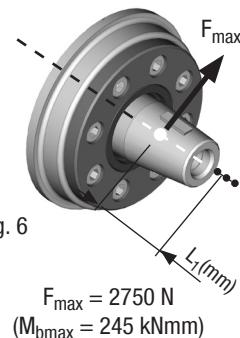

Fig. 6
- The force applied at the force engagement point by the belt tension (see Fig. 6) must not exceed  $F_{\max} = 2750$  N.
- If the force engagement point shifts forwards (see Fig. 6, small point), the force  $F_{\max}$  reduces as per the following formula: